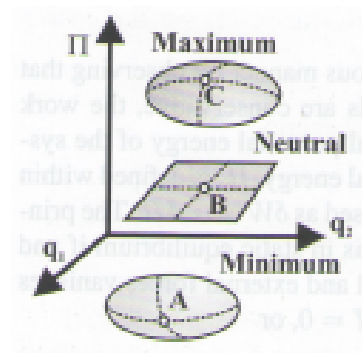

Fig. 10.3 Total potential energy.
- Graphical illustration of Principle 8 (Fig. 10.3)